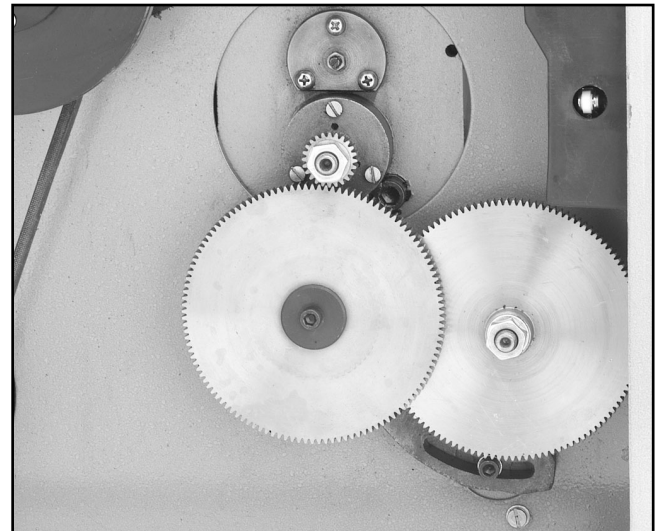

Figure 43. Gears aligned and in mesh.
8. Rotate the support arm until gears B and A are in mesh. Tighten the cap screw at the bottom of the gear support arm. **Figure 43** shows the gears properly aligned and in mesh.